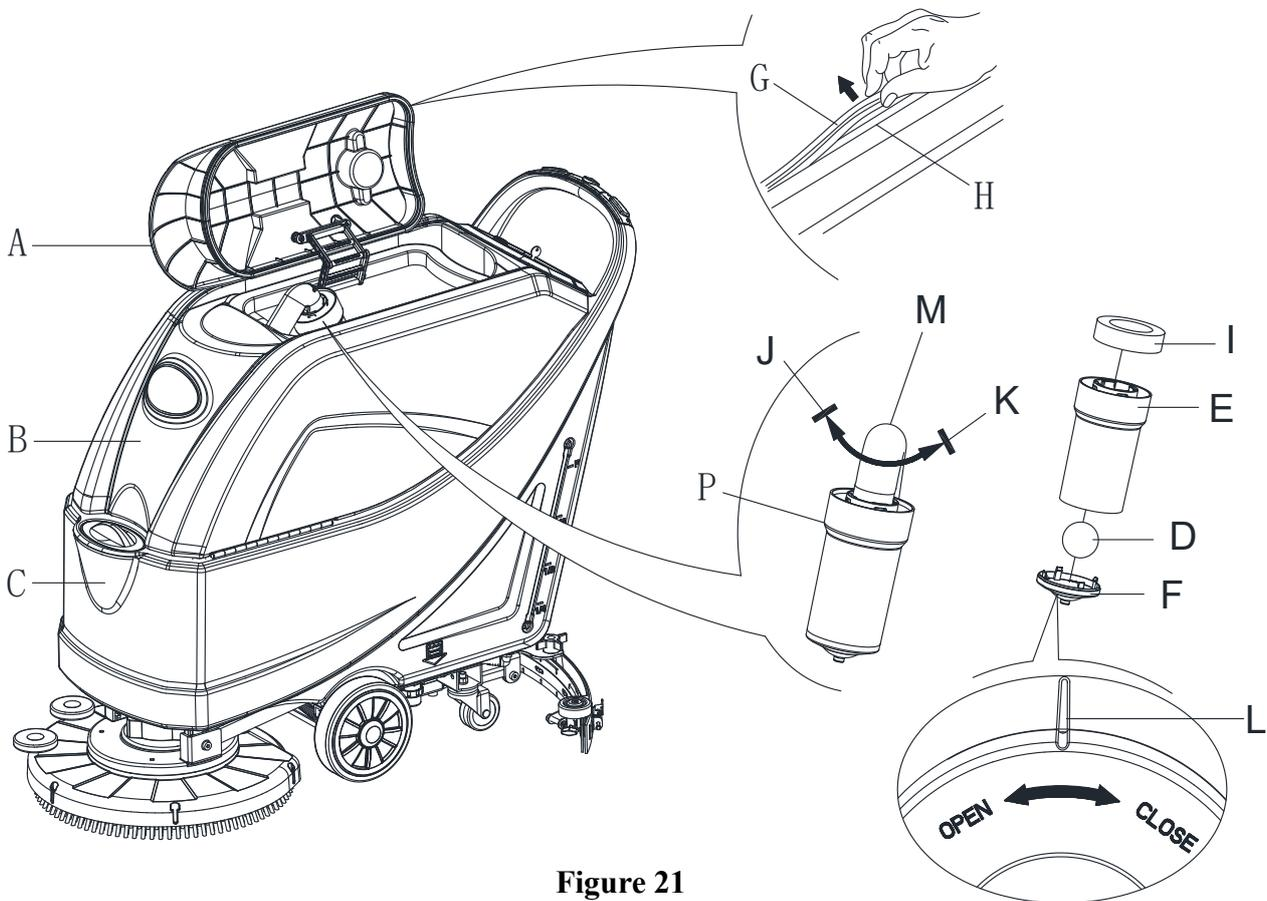

Figure 21
2. Ensure that the machine is off and the ignition key (54) has been removed.
3. Turn the recovery tank lid (A, Figure 21) 90 degree position where it can be taken off from the tank, and then take down the float ball filter (P) from the tank.
5. If necessary, follow the symbols “OPEN” and “CLOSE” as shown in (Figure 21) to open the bottom cover (F) of float ball filter and then clean the float ball (D), filter support frame (E) and filter sponge (I). After cleaning, fix the float ball (D) into the filter support frame (E) and then align the mark groove (L) of the bottom cap (F) of the float ball filter with the mark groove (L) of the float filter support frame (E). Screw the bottom cap of the float ball filter tight, and fix the filter sponge (I) onto the float filter support frame (E). Finally, connect it to the sewage suction hose (M).
7. Check whether the contact surface of sealing strip (G) is integrity and sealing is sufficient. If necessary, take the sealing strip of the tank out of the groove (H) and replace it. Assemble the new sealing strip as shown in (Figure 21), the joint should be back in the middle area.
8. Close the recovery tank lid (A).